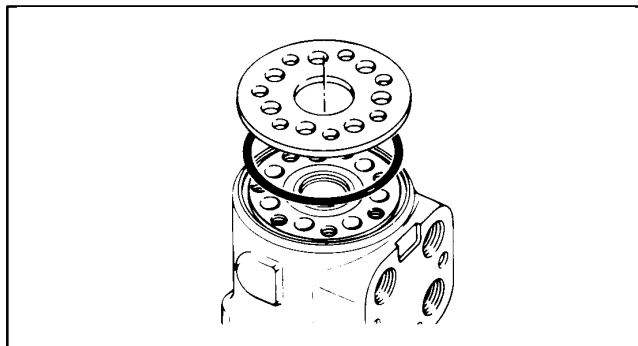

Figure 45
18. Install 3" diameter seal in housing, see Fig. 45.